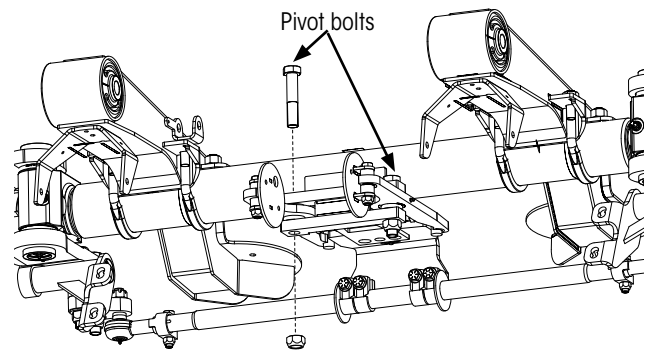

Figure 9: Lock-straight arm assembly pivot bolt removal
5. **Remove** lock-straight arm pivot bolts (Figure 9) for both lock-straight arm assemblies.